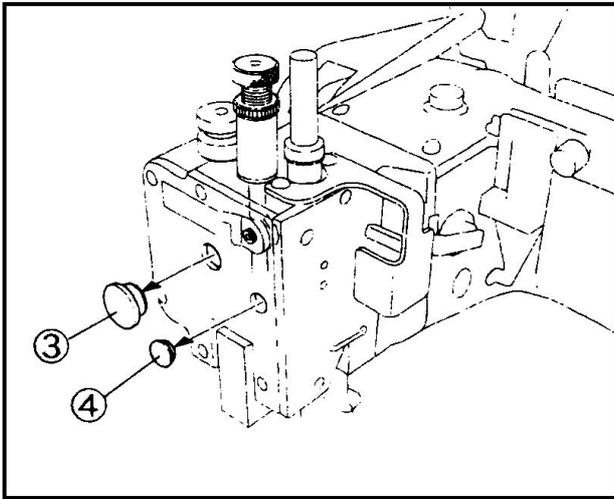

Fig.5
- (1) 移除油塞 ③ ④ 才可以檢查間隙。(Fig.5)
- (1) Remove the seal plugs ③ ④ to check the clearance.(Fig. 5)